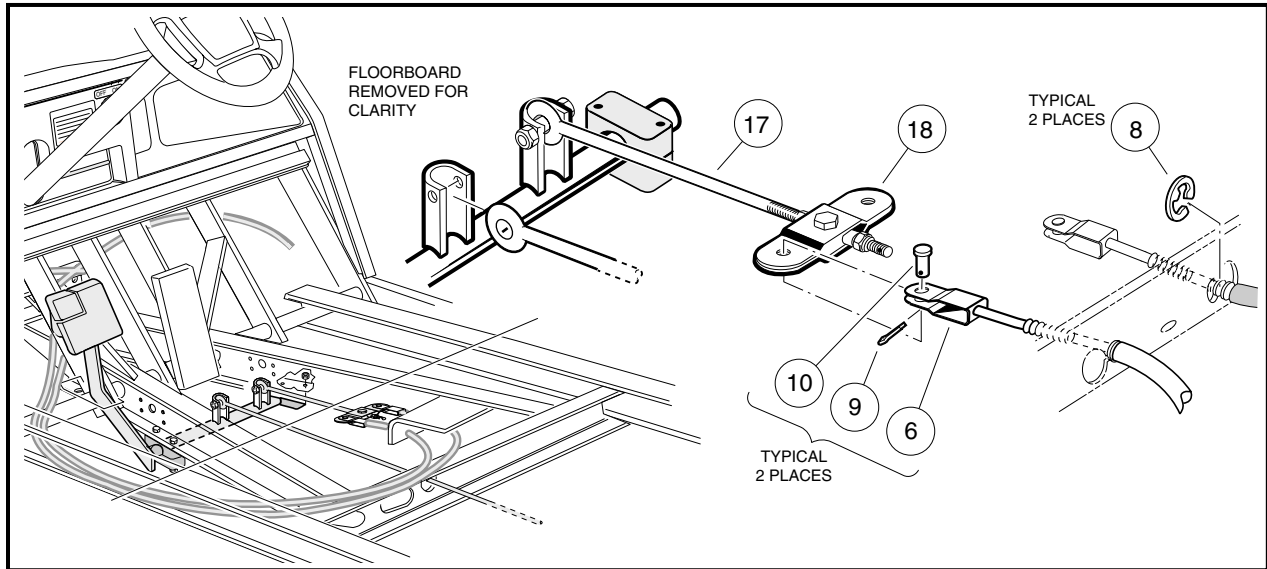

Figure 6-36 Brake Equalizer
3. Remove cotter pin (9), clevis pin (10), and E-clip (8) from brake cable at equalizer (18) (**Figure 6-36, Page 6-22**).
1. Place brake cable through frame mounting hole behind equalizer and install E-clip (8) on cable housing (Figure 6-36, Page 6-22).
2. Place brake cable clevis (6) on equalizer (18) and install the clevis pin (10) and new cotter pin (9).